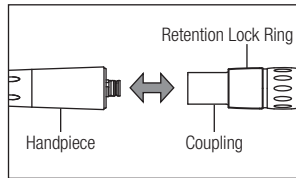

Fig. 2
**X450L / X450****(1) Connecting**
- 1) Insert the handpiece into the Coupling.(Fig. 2)
Pull back the Retention Lock Ring and remove the handpiece from the Coupling.(Fig. 2)